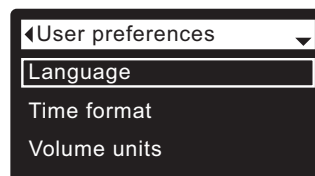

FIG. 110
3. Press the SELECT (O) button to display the User preferences menu (See Figure 110).
7. Press the SELECT (O) button. The display will go back to the User preferences menu (Figure 110).